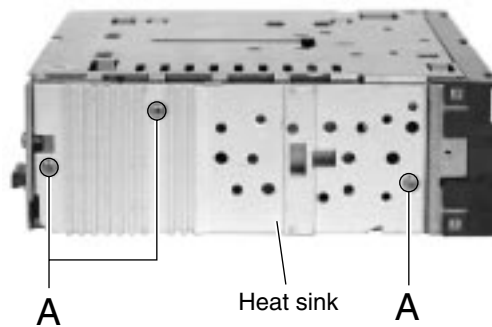

Fig.4
■ Removing the heat sink (See Fig.4)
(See Fig.4)